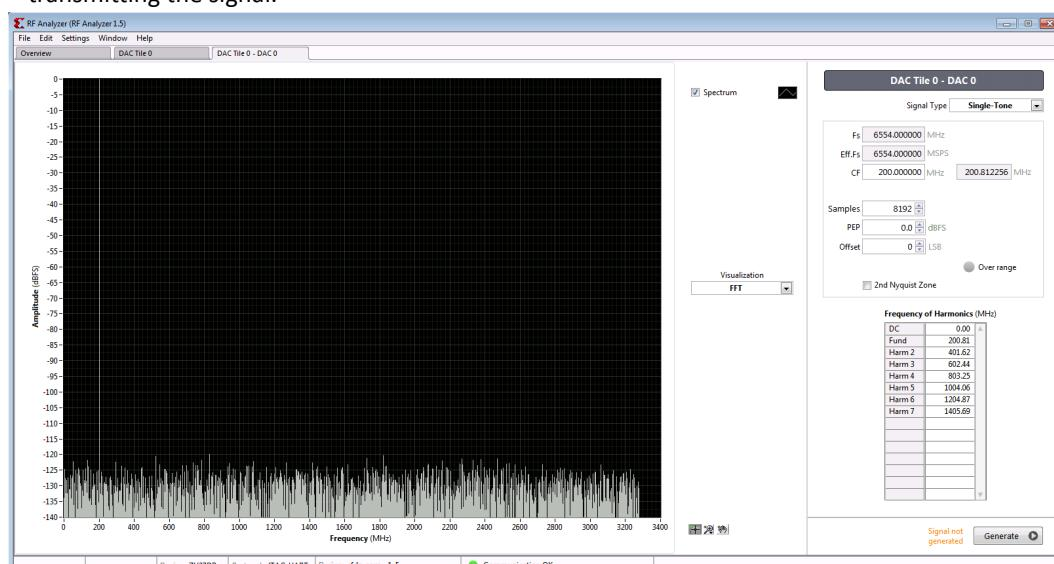

Figure 25. DAC signal generate
13. Configure one frequency on the interface represented on Figure 25 and press “Generate” to start transmitting the signal.